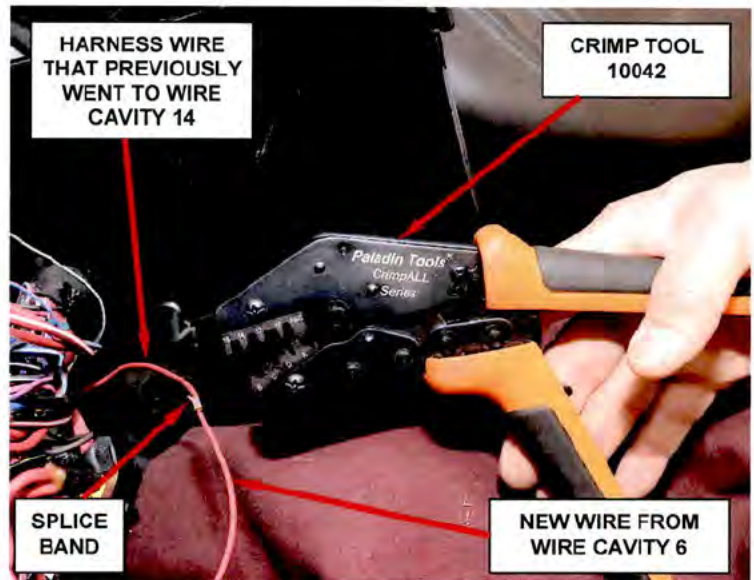

Figure 12 – Install Splice Band Clamp
16. Using the supplied splice band clamp and crimp tool 10042, crimp the wire that had the insulation stripped in Step 14 to the wire that was added in Step 9 (Figure 12).